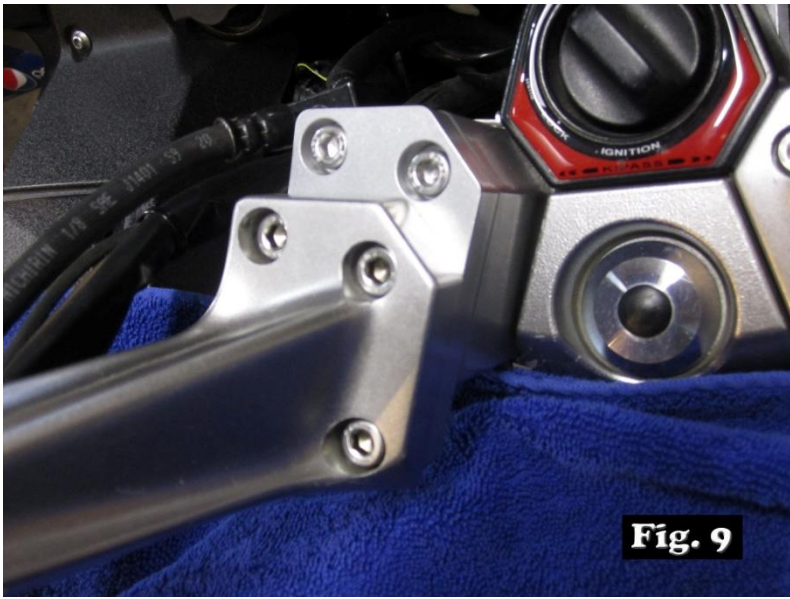

Fig. 9
- 9) Place the handlebar on the Riser Adapter and thread (2) of the 20mm bolts into position. **(Fig. 9)** You don't need to tighten these as they are just to keep the two parts in place as we apply Loctite to the bolts. Place a drop of the provided Loctite compound to the lower portion of the threads on the last bolt and insert it as you did with the other bolts. Then, one-by-one, remove a bolt and put Loctite on it. Tighten and torque these bolts to 16-18 ft/lbs. It will be necessary to gently pull the cables you released earlier into a position with the least amount of tension.